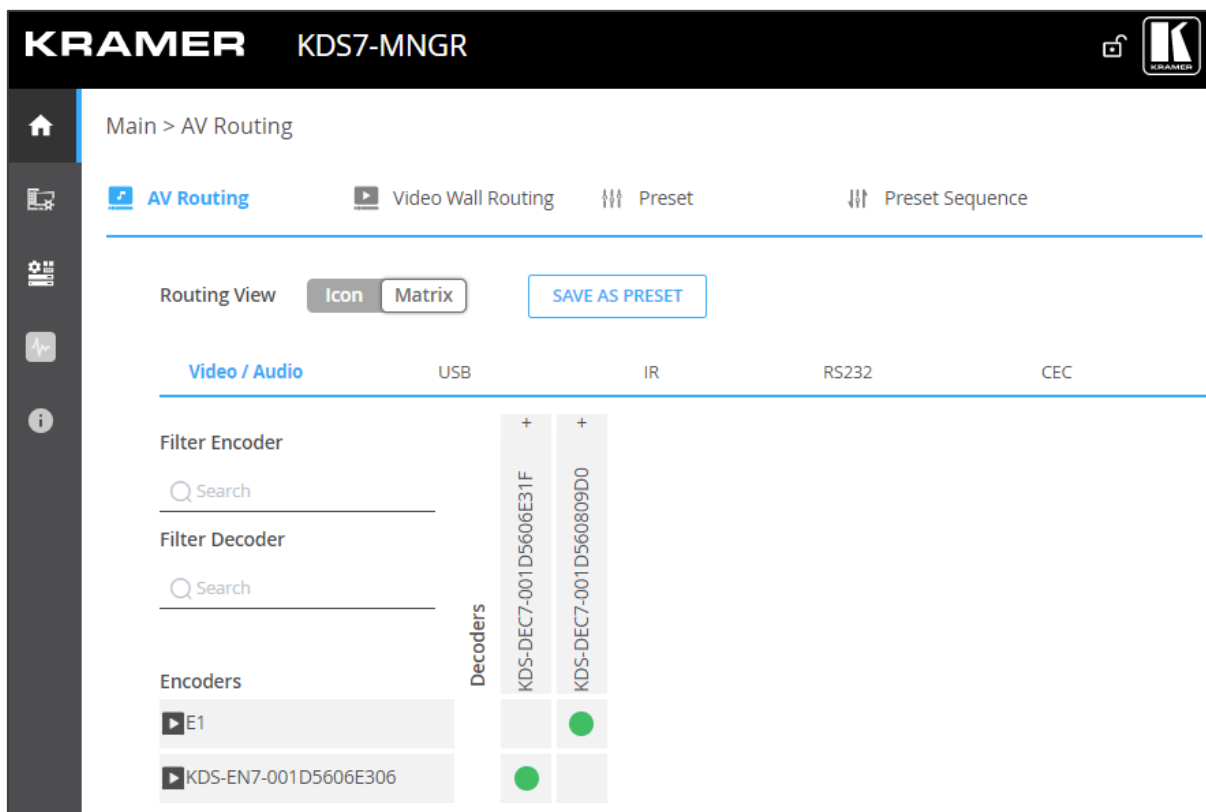

Figure 9: Controller Application Page with Navigation List on Left
1. In the Navigation pane, Select **Main>AV Routing**. The AV Routing page appears (see Figure 9).
2. Next to **Routing View**, click **Matrix** (default) to view the system as a matrix (see Figure 9) or click **Icon** to view each encoder/decoder as icons.
- 1. In the Navigation pane, Select **Main>AV Routing**. The AV Routing page appears (see Figure 9).
- 1. In the Navigation pane, Select **Device Management>Devices**. The Device Management page appears (see Figure 9).